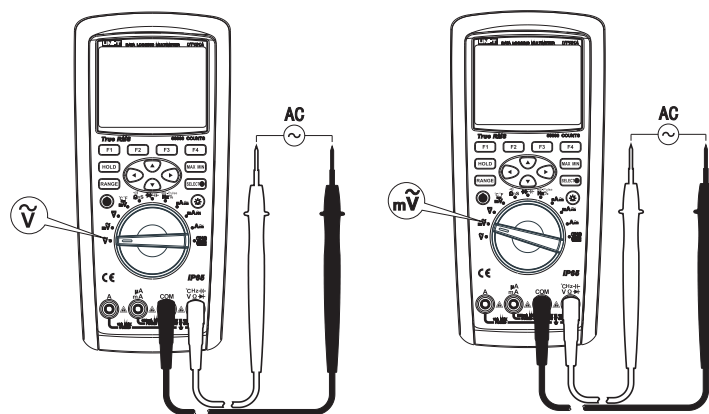

Figure 5
- 2) Set the rotary switch to $\tilde{V}$ or $m\tilde{V}$ as shown in Figure 5.